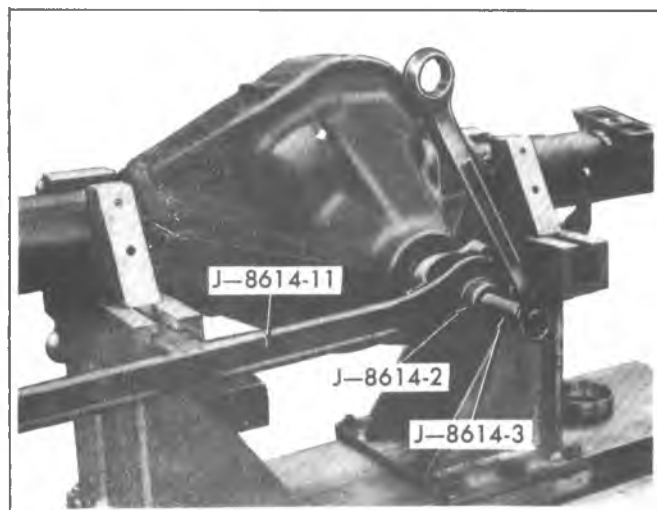

Fig. 6F-Removing Companion Flange
5. Thread end of J-8614-3 into small O.D. end of J-8614-2. Then with J-8614-11 installed as in step 3, insert J-8614-2 into J-8614-11 and turn it 1/8 of a turn to locked position. Remove flange by turning J-8614-3 while holding J-8614-22 as shown in figure 6F.